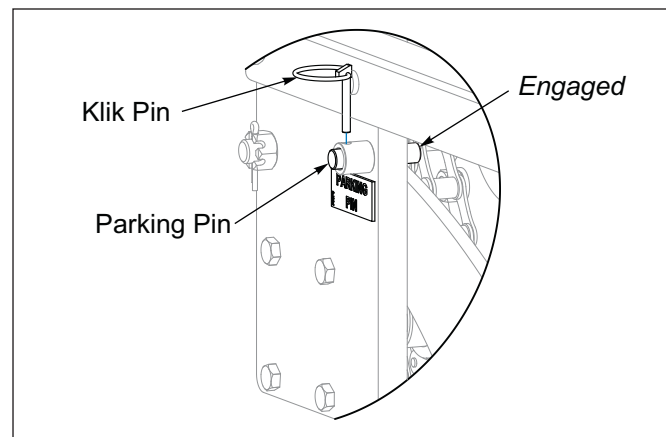

Figure 2-1: Parking Pin Engaged
4. Be sure the Parking Pin, on left side of frame, is locking Rear Roller down and raise the Seeder. **See Figure 2-1.**